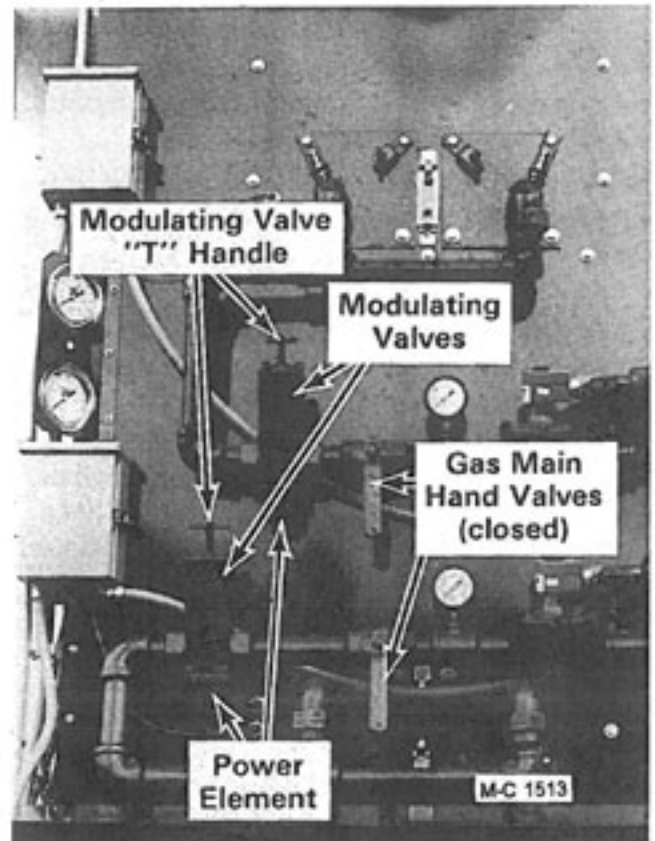

Figure 6 - Two Burner Controls
3. Close the gas main hand valve for each burner (handle 90° to the piping), see Figure 6.
4. Check the modulating valve in each burner gas manifold to be sure the "T" handle has not been turned all the way in to the wide open position, see Figure 6. The "T" handle should be halfway between the closed and fully open position.